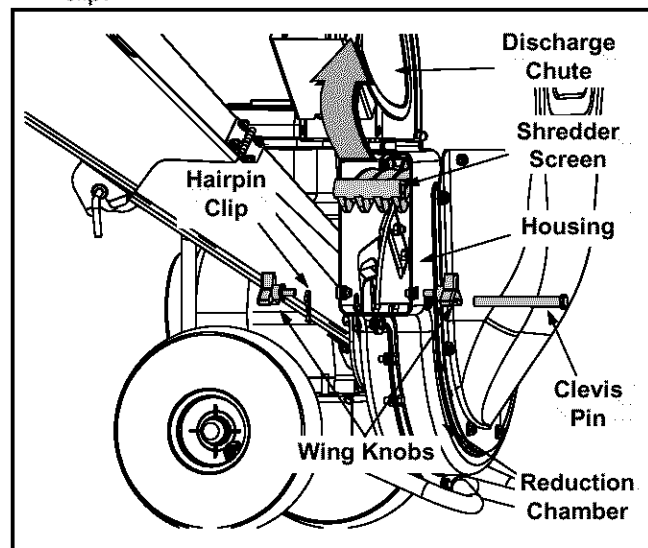

Figure 12
- Remove the two wing knobs on either side of the discharge chute and pivot the discharge chute upward. See Figure 12.
- Remove the hairpin clip from the clevis pin which extends through the housing and shredder screen. See Figure 12. Retain the clevis pin and hairpin clip.